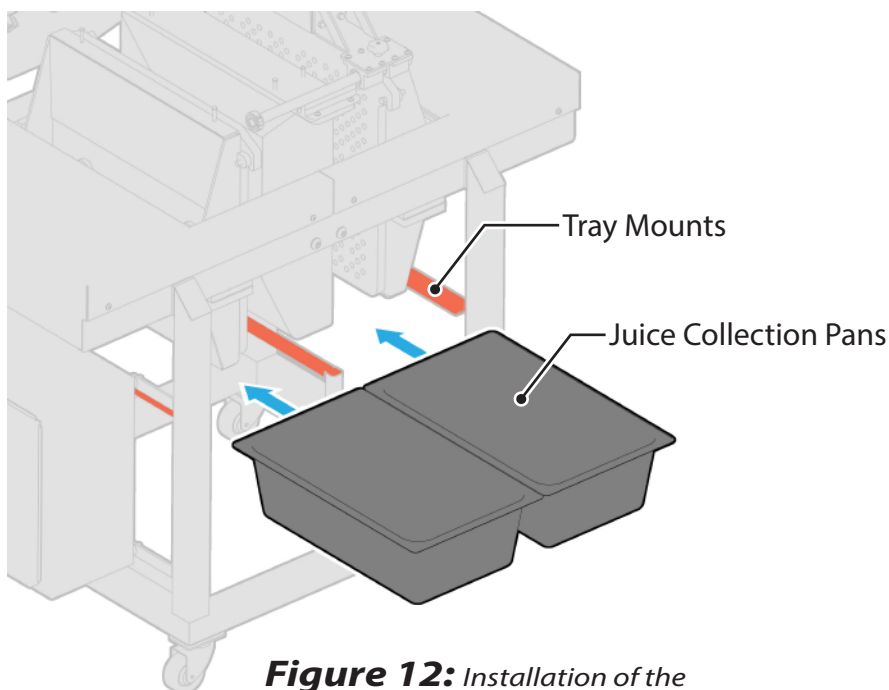

Figure 12: Installation of the Juice Collection Trays.
- Locate the Tray Mounts under the press area. Slide Juice Collection Pans into position on these mounts. Make sure the pans are centered under the platens. (**Figure 12**).